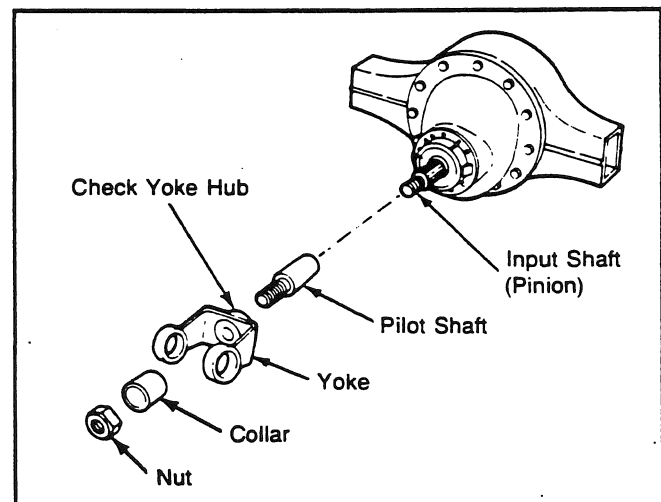

Fig. 38
2. Use the three-piece pilot tool as follows (see Fig. 38):